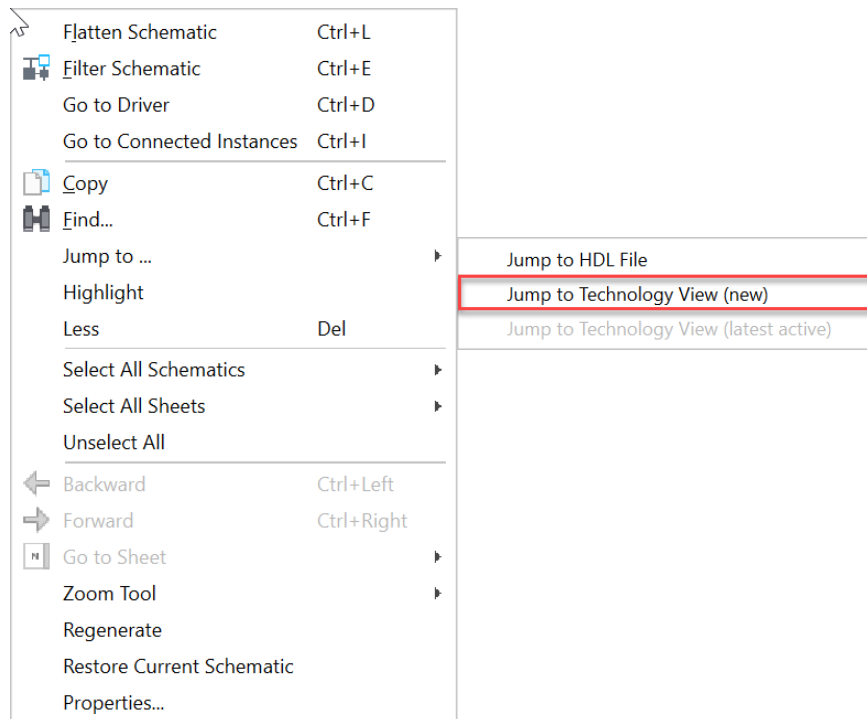

Figure 3.19. Jump to Technology View Option
- Choosing Jump to Technology View option, shown in Figure 3.19, allows you to inspect the net in the context of the technology view, providing insights into physical implementation details.